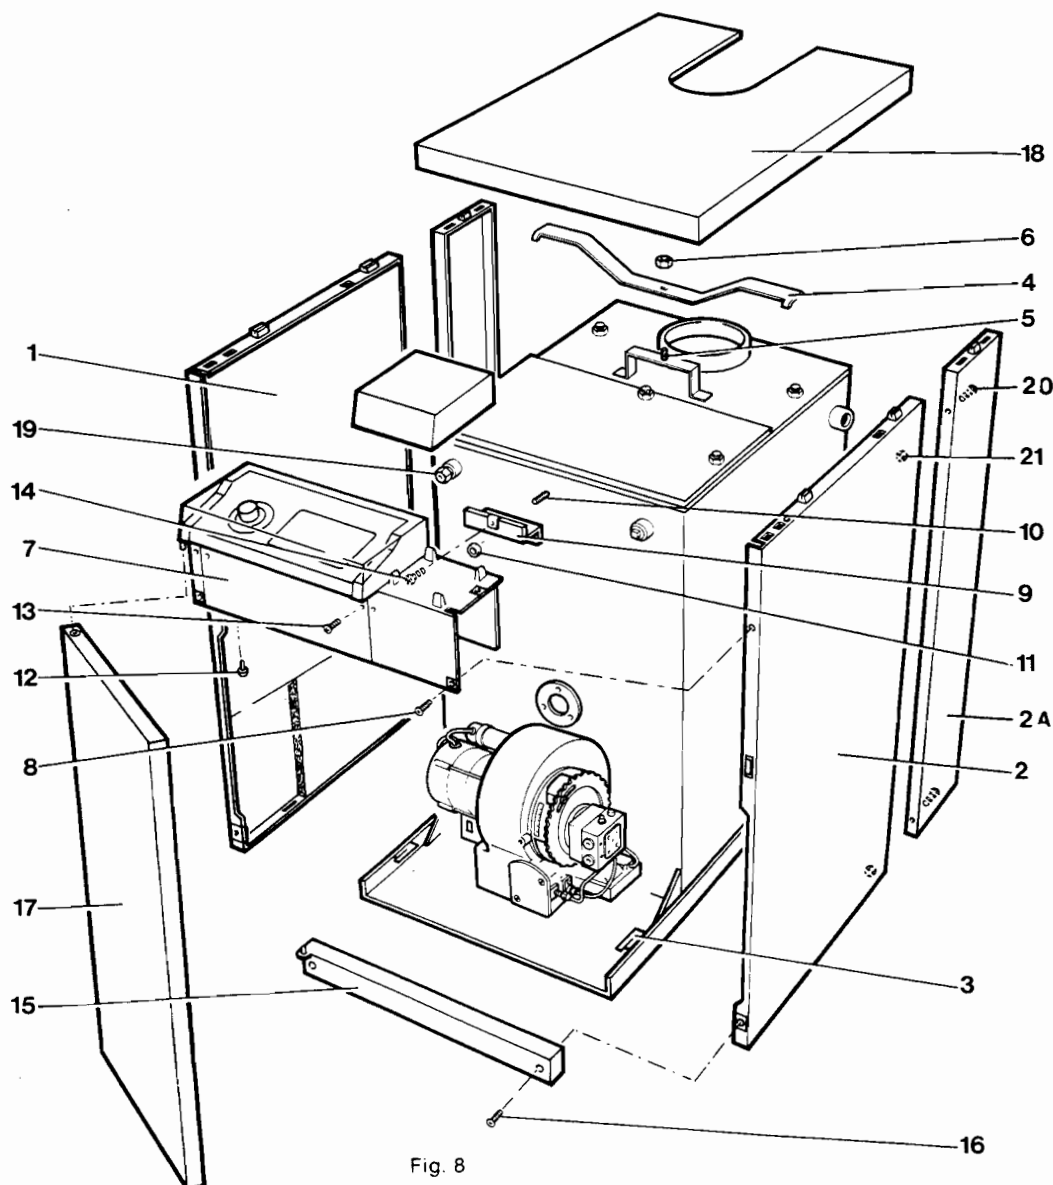
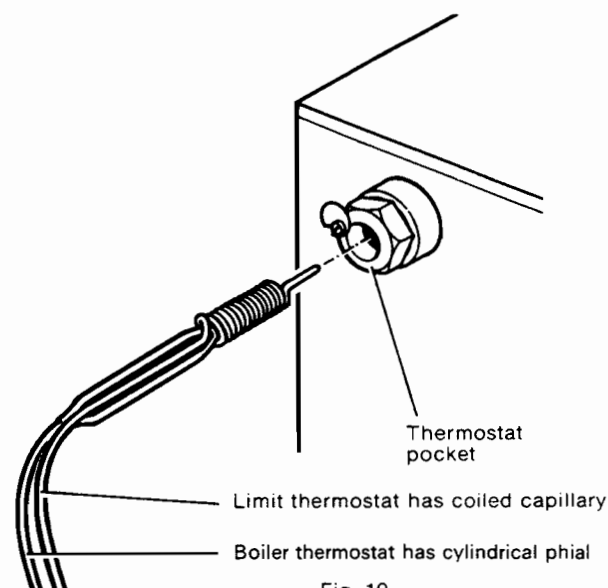

Fig. 8
Fig. 10
8. Casing assembly. See Fig. 8.
Secure the wiring centre with three countersunk screws, 8, one through the top of the side panel and two through the front. (see Fig. 8).
- 9.9 Carefully uncoil the boiler and limit thermostat capillaries and insert the phials into the thermostat pocket, see Fig. 8 (19) and Fig. 10.